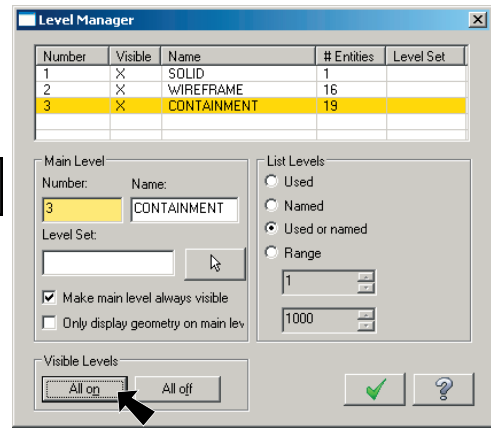

Fig. 53
Step 2. Turn on **SOLID** and **WIREFRAME** levels. To turn on levels, click **All on** button. Click **OK** when done, **Fig. 53**.